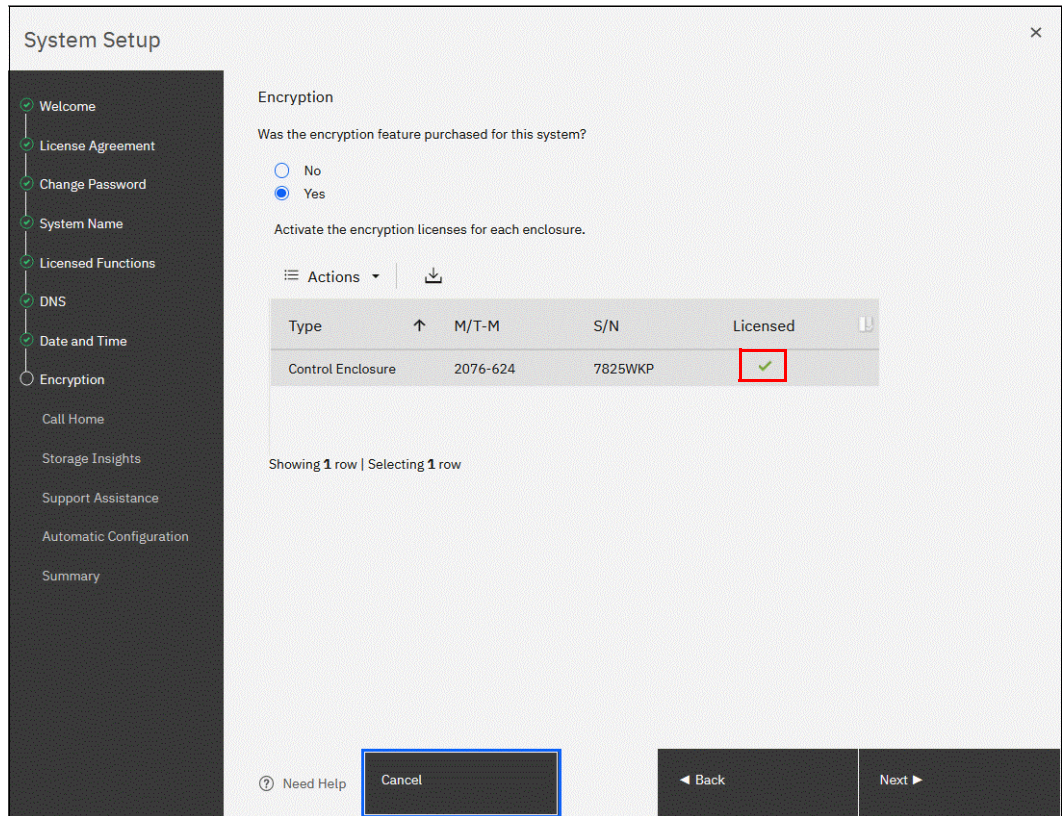

Figure 12-8 Successful encryption license activation during the initial system setup
3. After either activation process is complete, you can see a green check mark in the column that is labeled **Licensed** next to a control enclosure for which the license was enabled. You can proceed with the initial system setup by clicking **Next**, as shown in Figure 12-8.